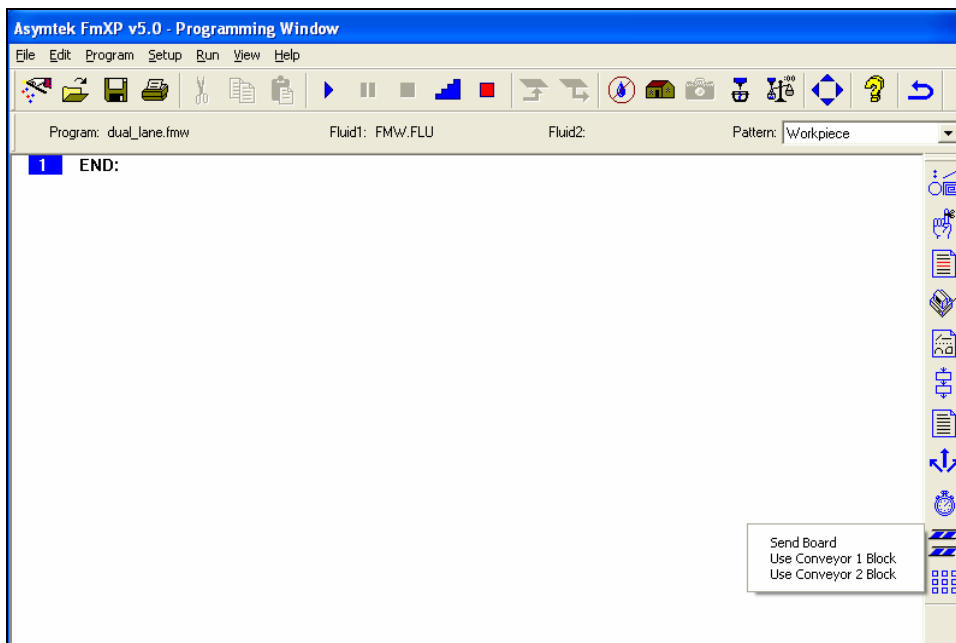

Figure 3-7 Programming Window - Conveyor Block Commands
- ▶ The Conveyor drop-down menu (Figure 3-7) opens.